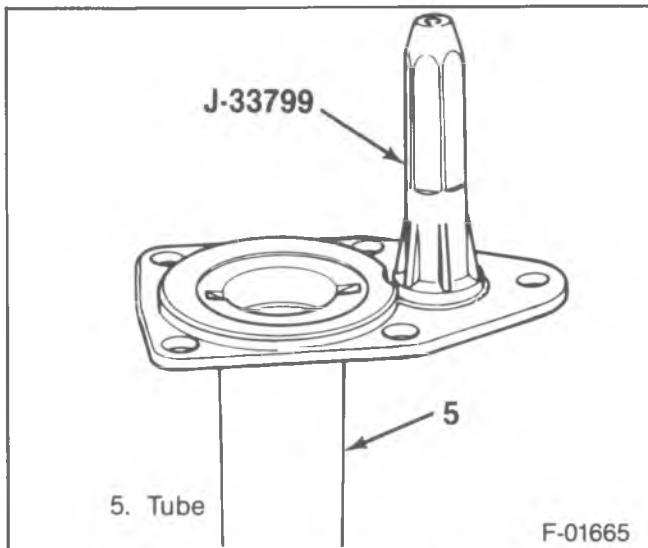
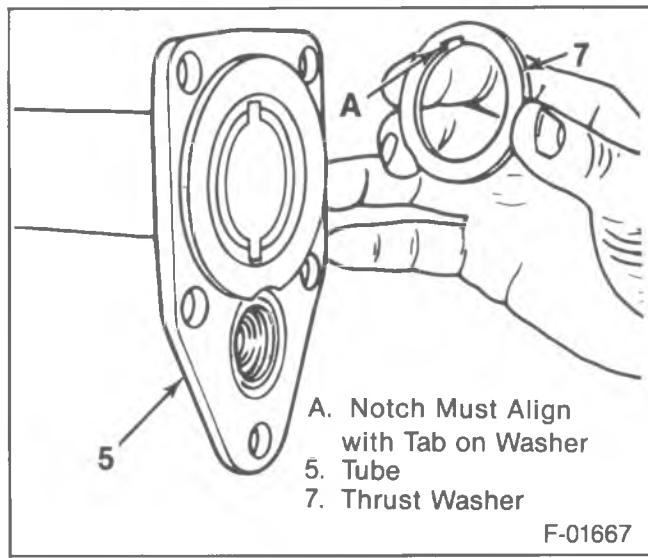

Figure 86—Installing the Shift Housing Seal
Figure 87—Installing the Thrust Washer
28. Seal (15) into the tube (5) using J-33799 (figure 86).
29. Washer (24).
30. Differential pilot bearing (21) into the output shaft (23) using J-33842.
31. Output shaft (23), sleeve (22) and thrust washer (20).
32. Shift shaft and fork (17) and spring (16).
33. Thrust washer (7) into the tube (5).
- Align the notch and apply grease to the washer to hold it in place (figure 87).
34. Shaft (1) into the tube (5).
- Carrier connector (9).
35. Tube (5).
36. Two top bolts (6) to hold the tube in place. Leave finger tight.
37. Shift cable housing (11) and bolts (6).